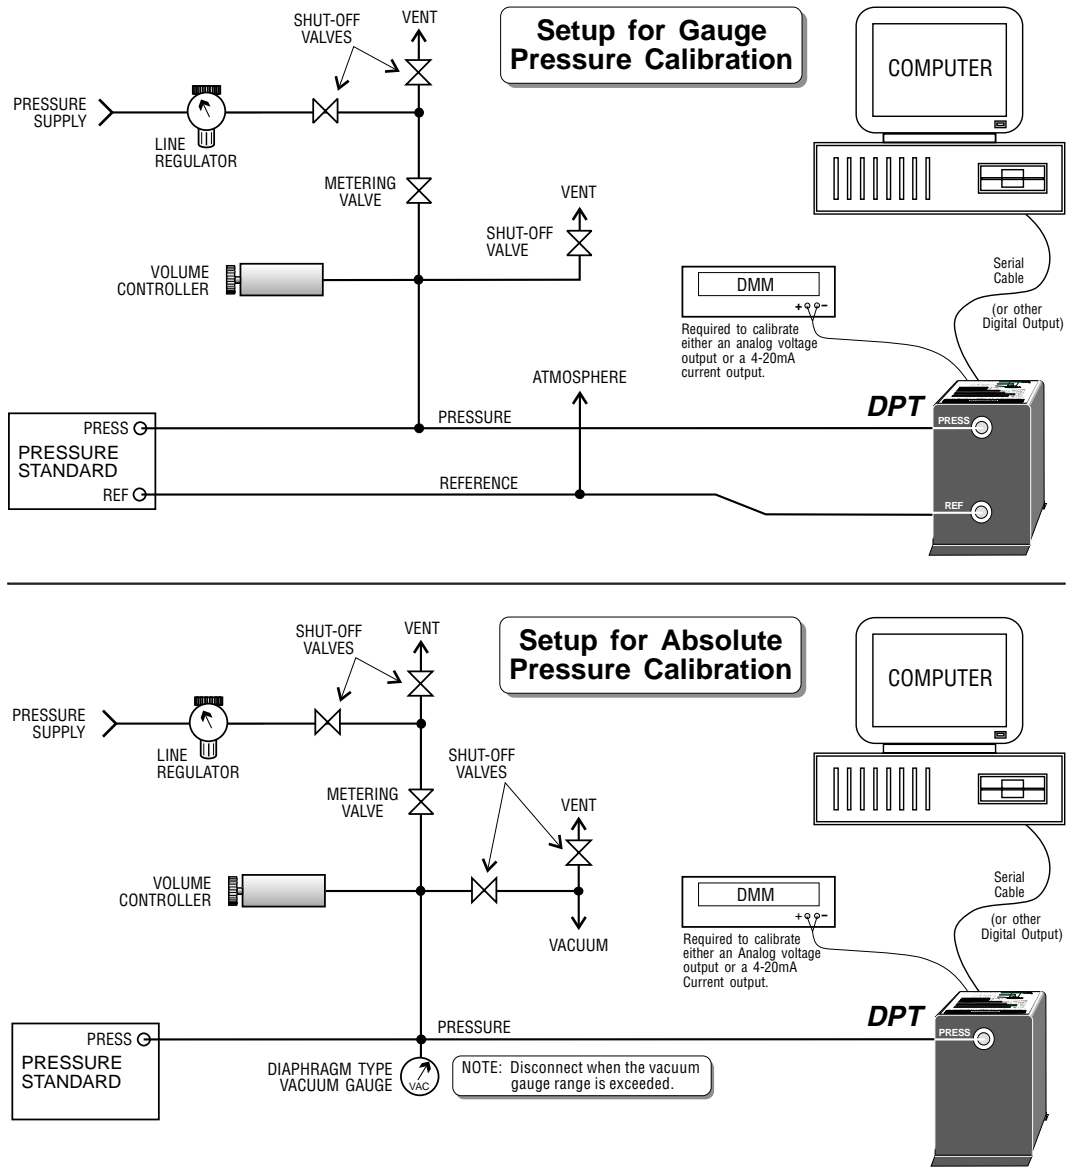

Figure 6.1 - Calibration Setup
The following equipment is needed to calibrate a gauge or differential DPT (see figure 6.1):
Additional equipment is required to calibrate an absolute DPT (see figure 6.1). These additional items are:
Figure 6.1 illustrates typical setups for calibrating an absolute or gauge pressure DPT. Calibration of the zero and span values over the serial port for a standard DPT is explained next, followed by a discussion on how to calibrate the 4 to 20
Refer to figure 6.1 for the type of transducer, gauge/differential or absolute, to be calibrated. In addition to the pneumatic equipment, this procedure requires a computer configured for serial communication (RS-232 or RS-485), DPT compatible software, and the interconnecting cable.
2. Use the setup in figure 6.1. Evacuate and hold the sensor at approximately 300 to 400 millitorr. Allow the system to stabilize at that pressure for from five to ten minutes. Take the vacuum reading and convert it to an equivalent reading in psi. (Table 9.1 in the *Appendix* lists conversion factors.) This becomes the TRUE PRESSURE reading.
Figure 6.1 illustrates a typical calibration setup. With all of the equipment in place follow the steps given below in sequence.